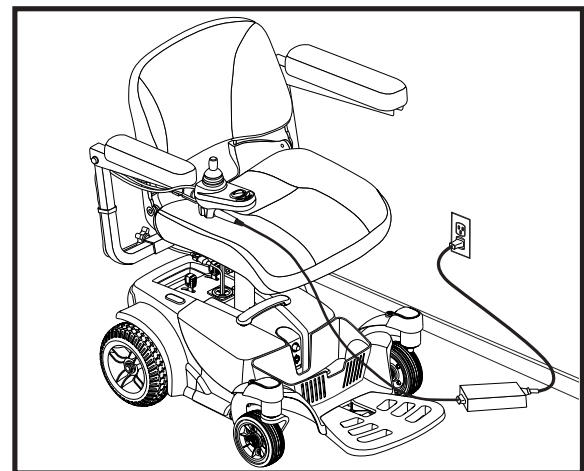

Figure 23. Battery Charging through the Controller
3. Plug the off-board charger into the off-board charger/programming socket located on the controller. See figure 23.